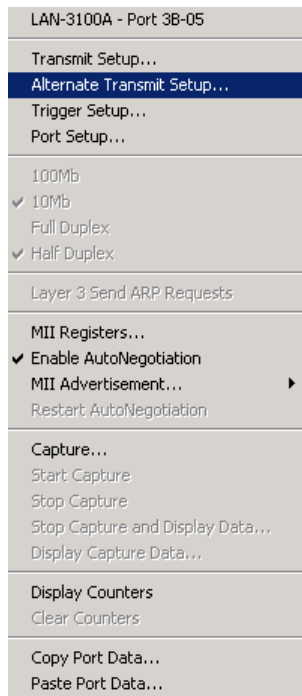

Figure 5-15. Port Menu
- 2 Click the receiving port, and choose **Capture** from the **Card (Port)** menu. (See *Figure 5-15 on page 149*.)